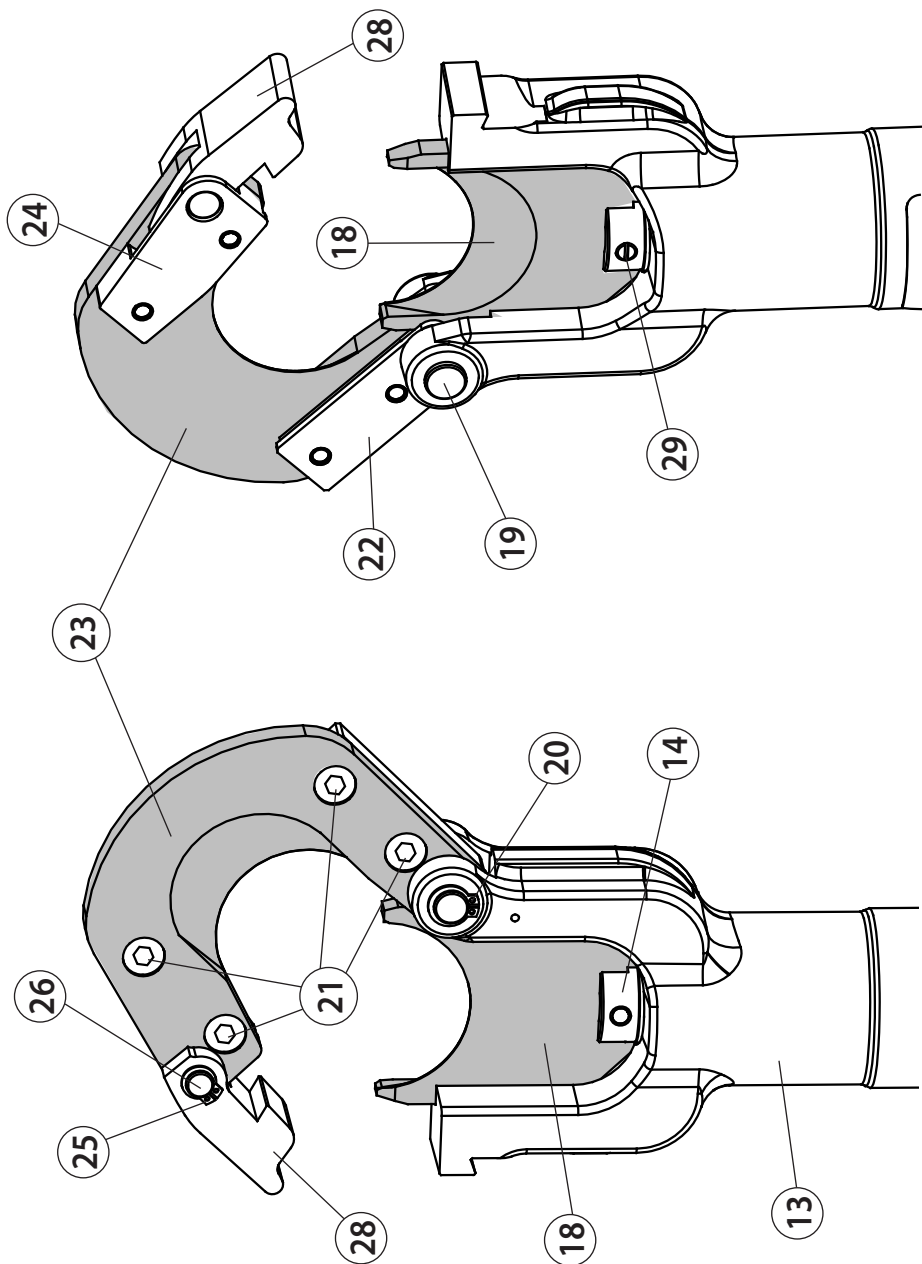

FIG. 3
5. CAMBIO DELLE LAME (Rif. a Fig. 3)